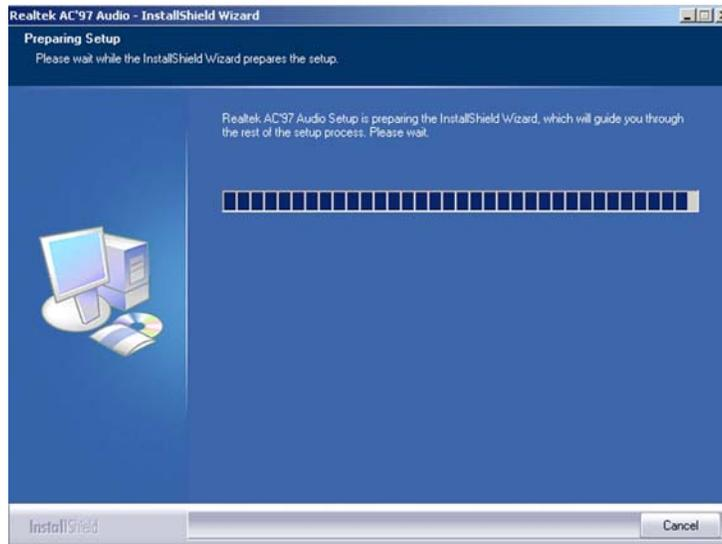

Figure 6-24: AC`97 Audio Driver Setup Preparation
Step 5: The Realtek Audio Setup prepares the install shield to guide you through the rest of the setup process. See **Figure 6-24**.